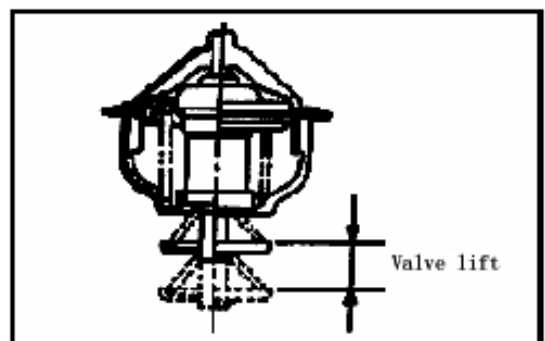

Fig 7-6
- (2)Check that the amount of valve lift is at the standard value when the water is at the full-opening temperature. (See Fig 7-6)。